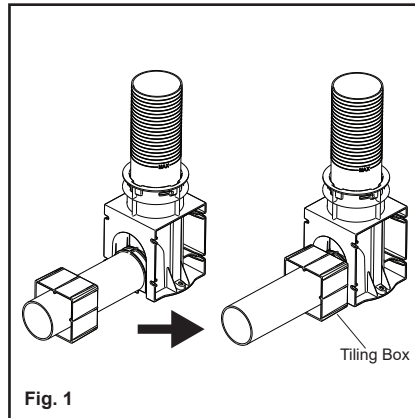

Fig. 1
1. After the adjustable flush pipe has been mounted and before the tiler prepares the wall, the blue flush pipe tiling box must slide onto the horizontal flush pipe section as shown in **Fig. 1**.